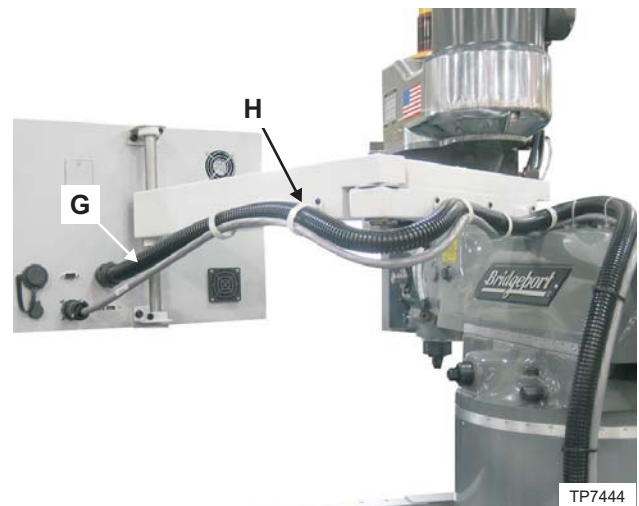

Figure 2.8 - Pendant Arm
6. Route wire carrier "G", Figure 2.8, to the bottom of the power case.